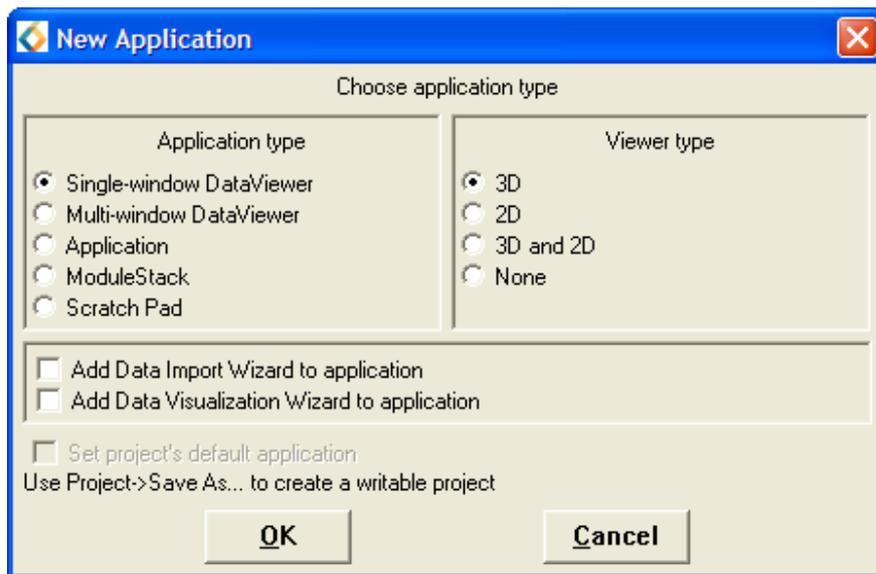

Figure 2.3: New Application Pop up window
- A New Application pop up window will appear in which the initial type of application and viewer required can be selected (Figure 2.3).